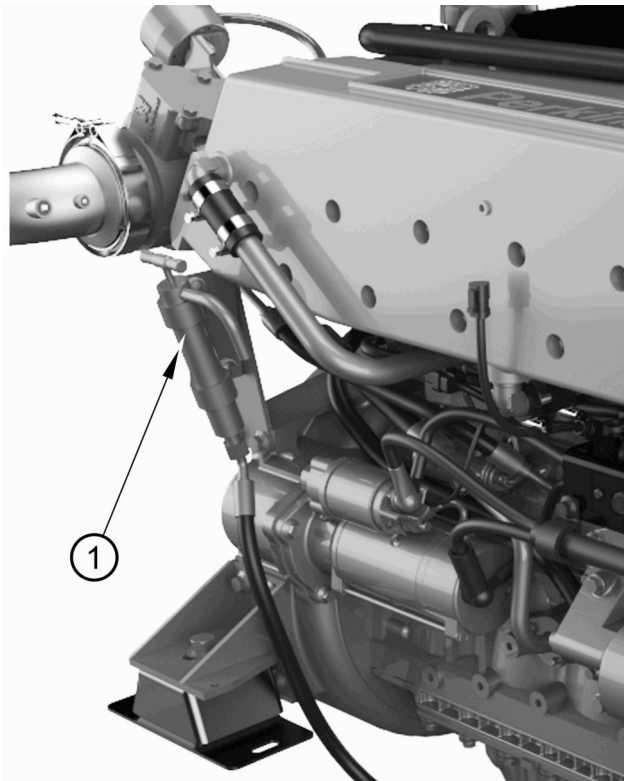

Figure 18
1. Attach a suitable length of hose on the sump pump (figure 18 item 1) and place a suitable container with a capacity of at least 16 litres (28 UK pints) at the other end. If possible, the lubricating oil should be drained while it is still hot.